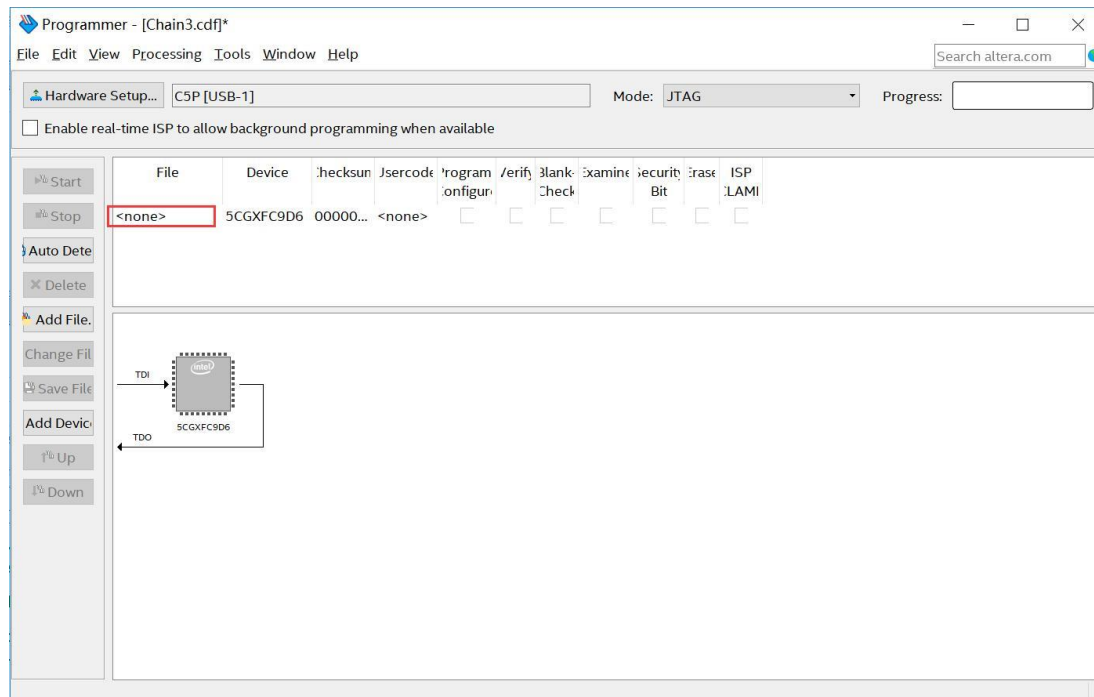

Figure 6-6 Quartus Prime Programmer detecte FPGA device
2. Click **Auto Detect** and then select the correct device. The FPGA device should be detected, as shown in **Figure 6-6**.
3. Double click the red rectangle region, as shown in **Figure 6-6** and the **Select New Programming File page** will appear. Select the .jic file to be programmed.
2. Click **Auto Detect**, and then select correct device, FPGA device will be detected, as shown in **Figure 6-6**.
3. Double click the red rectangle region shown in **Figure 6-6**, the **Select New Programming File** page will appear. Select the correct .jic file.